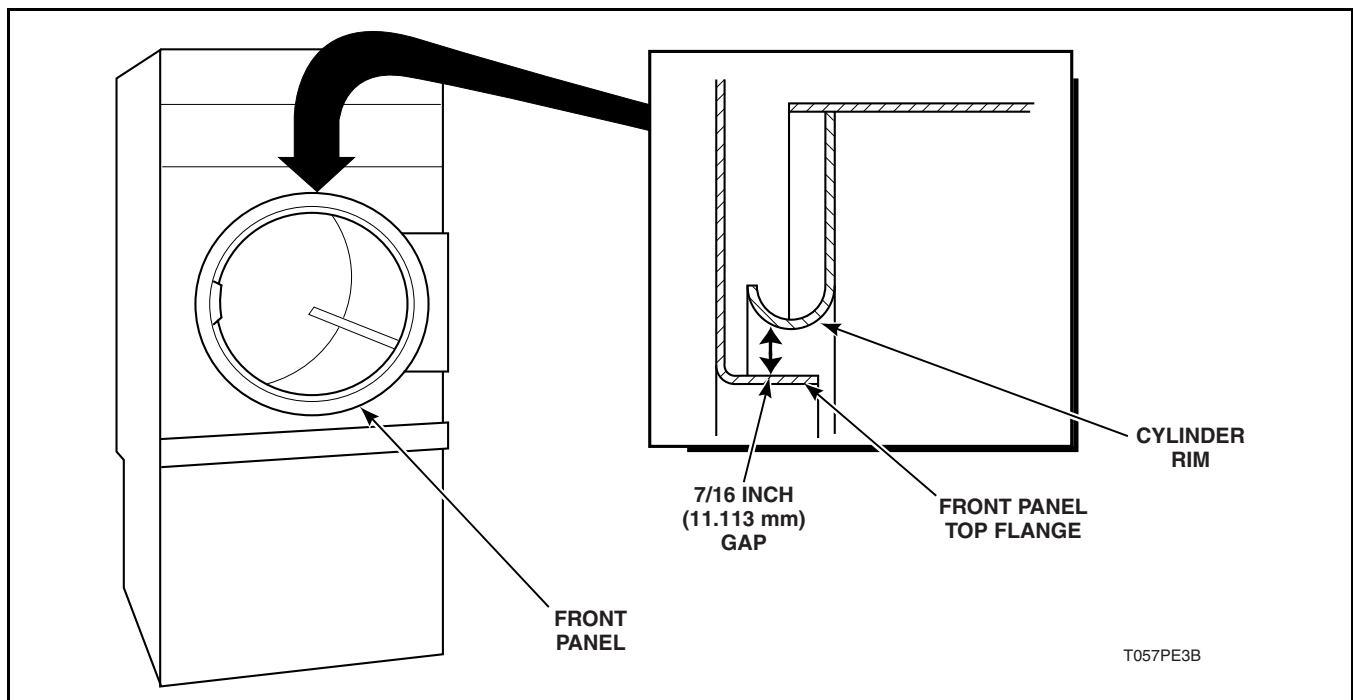

Figure 54
- Open loading door and check gap between center of the front panel top flange and cylinder rim. Proper adjustment is when gap is 7/16 inch (11 mm). Refer to *Figure 54*.